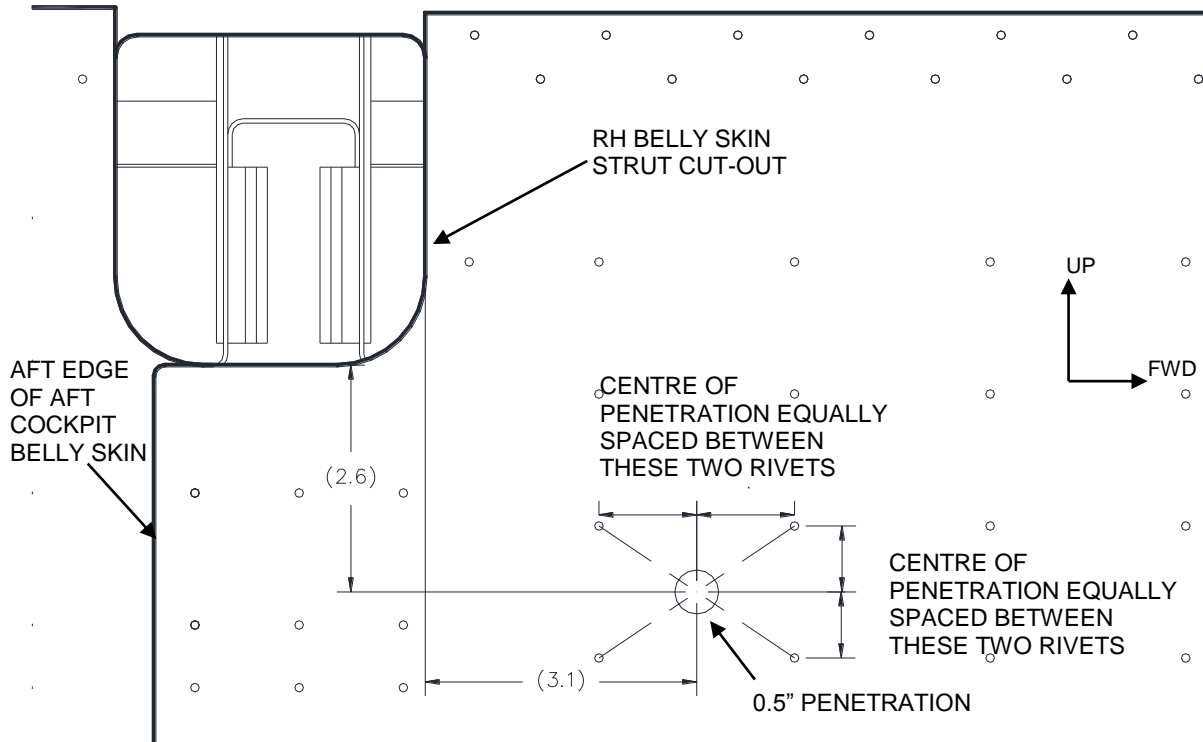

Figure 16: Hole location
2. Create a penetration, with a diameter of 0.500", in the Aft Cockpit Belly Skin in the location defined in Figure 16.